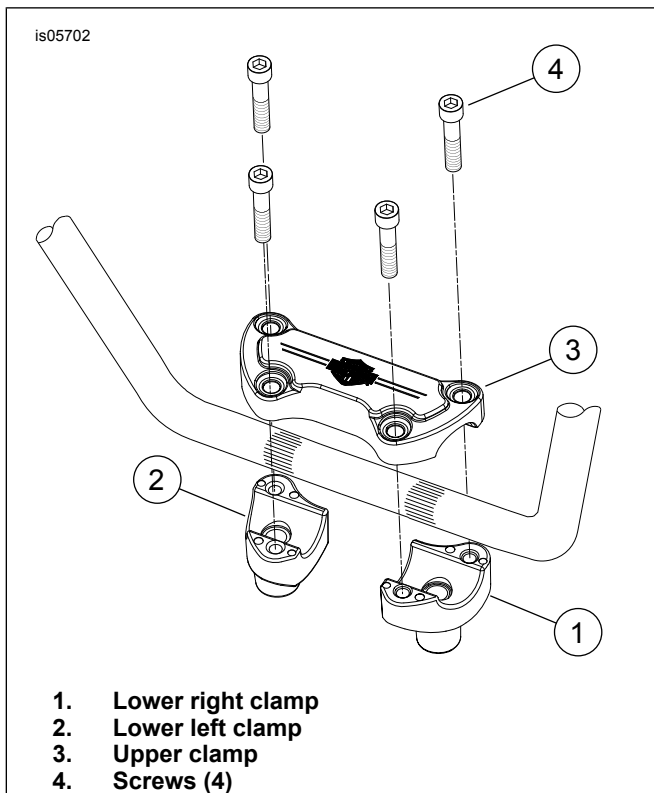
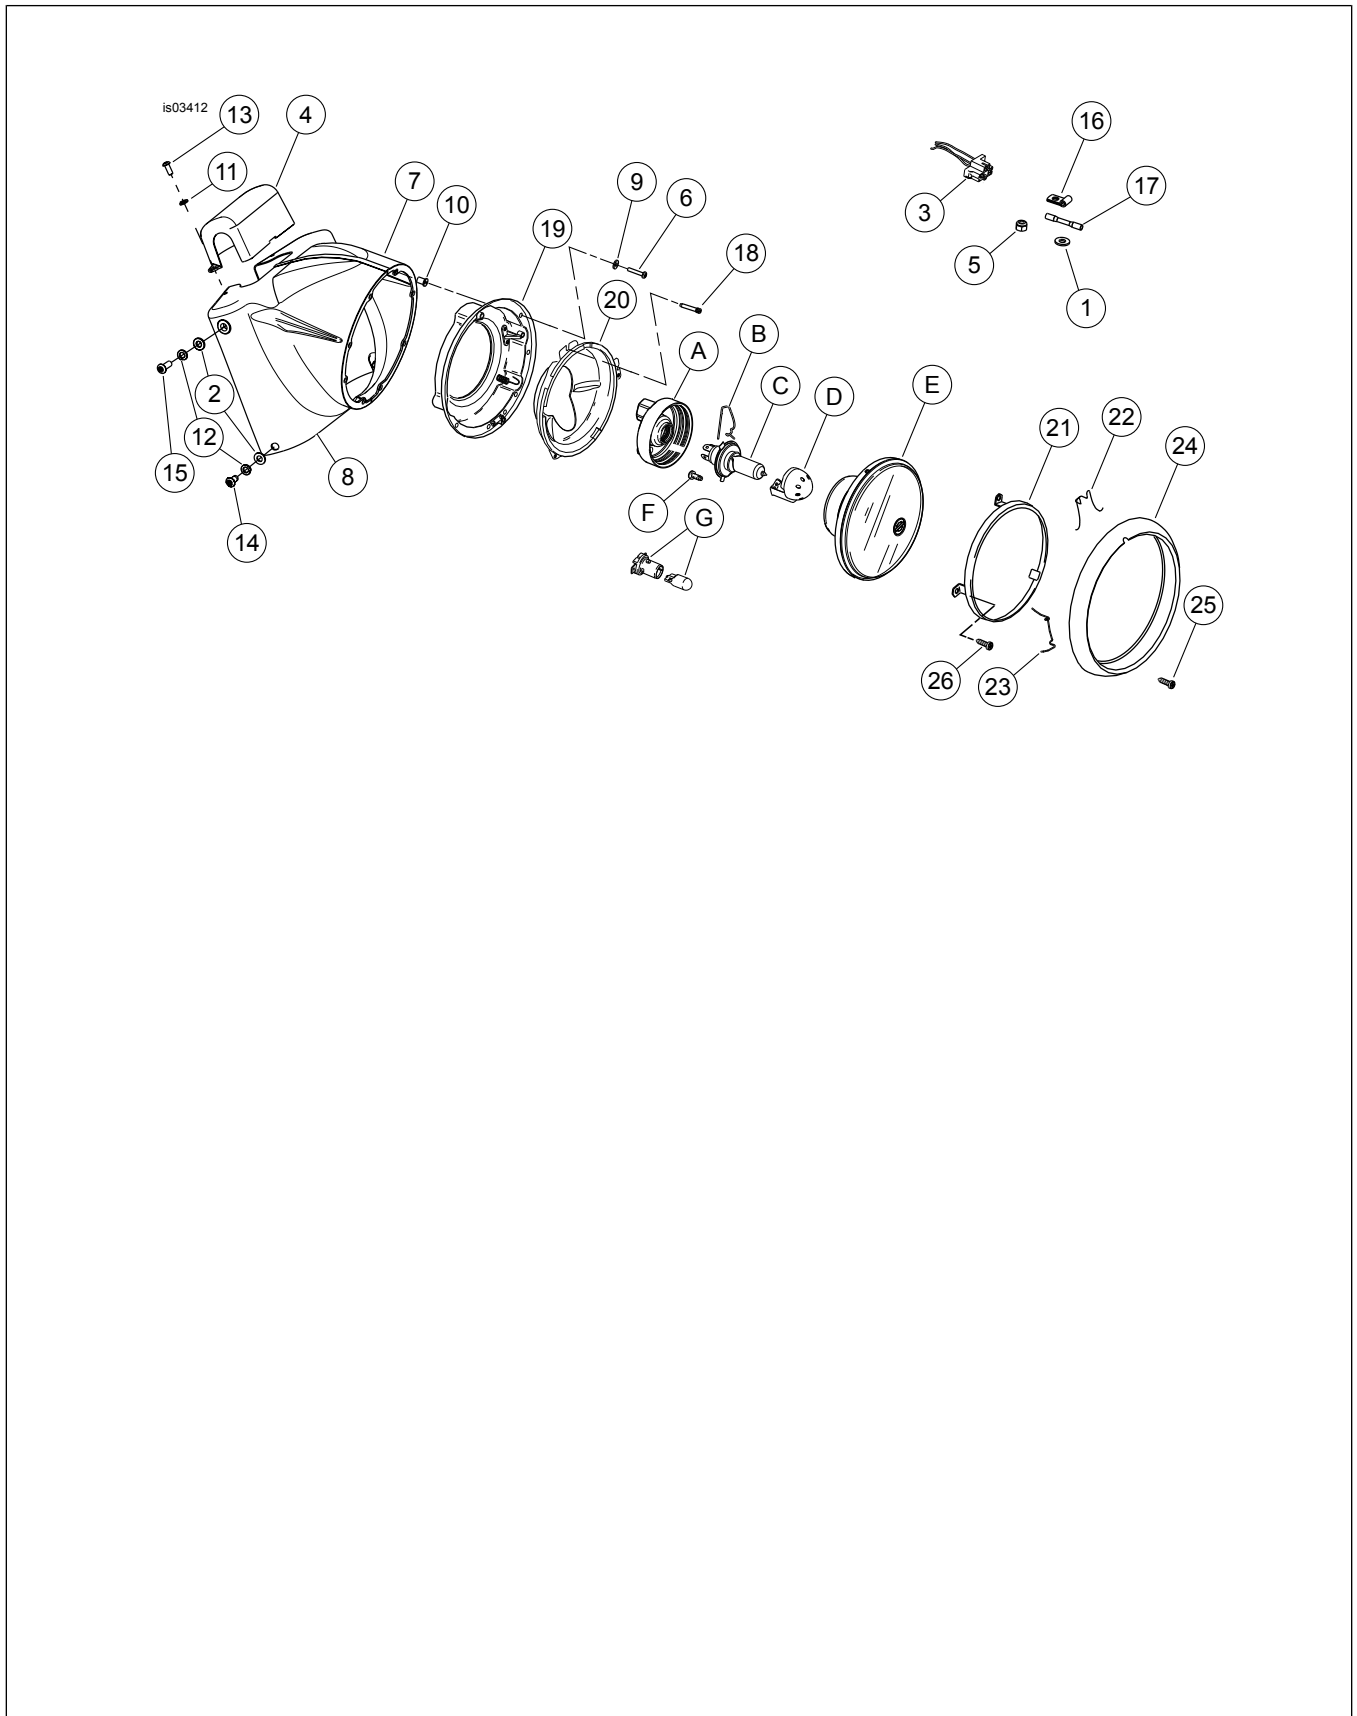

Figure 4. Riser Orientation - FLSTC
Figure 10. Service Parts for Chrome and Gloss Black Headlight Nacelle Kits
- b. See Figure 4. Loosely install new risers (Kit Number 46809-09), oriented as shown, to the upper triple tree using the stock screws, lock washers and washers. Install ground cable and internal tooth lock washer onto the right side riser screw.
- d. Install riser cap (3) onto the risers (1 and 2) over the handlebar using four screws (4) included in the kit.
12. See Figure 10. Install well nuts (10) into holes in nacelle halves. Install right side of nacelle (7) as follows:
- a. Loosely attach the bottom hole of the nacelle to the fork bracket with a 5/8 inch long screw (14), lock washer (12), and flat washer (2) on both the inside and outside of the nacelle. Placing a flat washer on each side of the nacelle will space the nacelle out to be flush with the fork slider covers.
- b. Attach the top hole of the nacelle with a 7/8 inch long screw (15), lock washer (12), and flat washer (2) all on the outside of the nacelle. Screw must not bottom out in hole. Do not tighten screws at this time.
14. See Figure 10. Fasten the brake line on the back of the right hand nacelle piece using the two brake line retaining clamps (16) from the kit. Attach the retaining clamps to the right-hand nacelle piece using the original 5/8-inch long capscrews, 1/4 flat washers (1) and locknuts (5) (washer goes under nut).
17. Install the headlamp and bucket assembly into the nacelle using eight washers (4) and screws (5) from the kit.
18. See Figure 10. Place handlebar cover (4) into position and secure with 5/8 inch long screws (13) and lock washers (11).